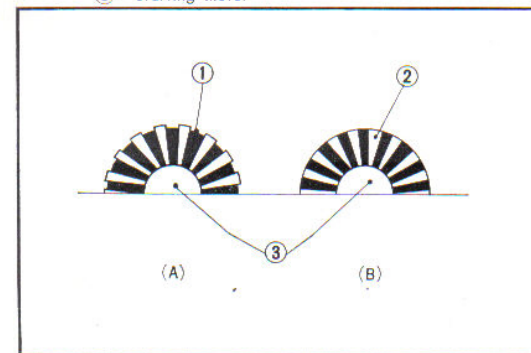

Fig. 5.60 Sectional view of commutator
The normal condition of the commutator is as shown in Fig. 5.60 (A) and after a period of use, the copper contacts become worn to a shape shown in (B). When this condition develops, the commutator must be restored to the original condition. This rework (under-cutting the mica) requires special skill and tooling, therefore, it should be referred to a specialty shop. (Fig. 5.60, 5.61)